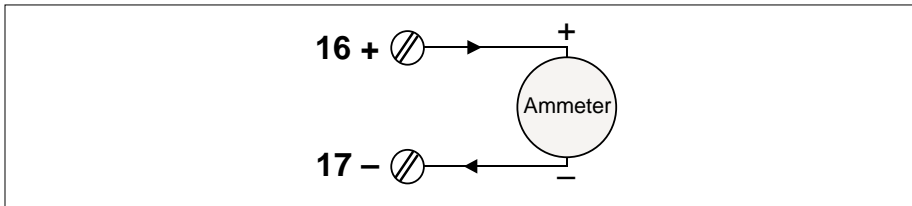

Figure 13-7 Current outputs calibration setup
- 5 Measure the output current. Figure 13-7 shows the setup. This should be slightly less than 20mA. Then increment ST to '2'.